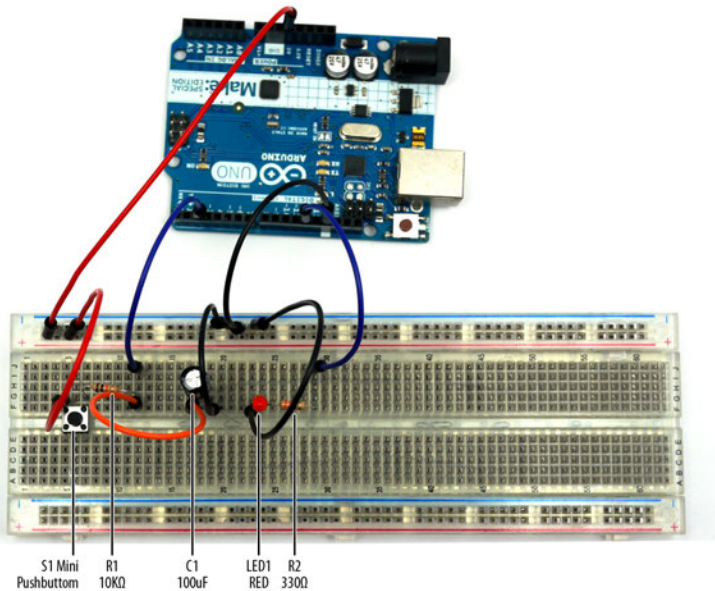
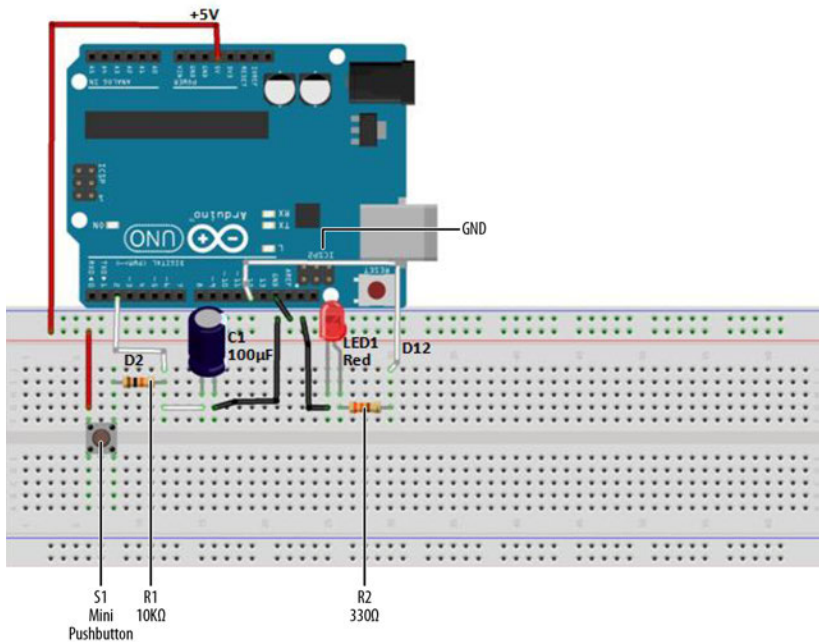

Figure 1-1. Trick Switch circuit built on a full-size clear breadboard (both the 100 μ F electrolytic capacitor and red LED negative pins are wired to ground)
Figure 1-2. Trick Switch Fritzing diagram
In electronics, sometimes we want to keep a device on for a certain amount of time even when an electrical switch is turned off. Ordinary pushbuttons used to turn electronic devices on and off can easily be operated by a timed delay switch. How awesome would it be to create such a device to delay turning off a simple LED? Such a gadget could be used to trick your friends, family, or even the local Makerspace when they see the LED staying on after the pushbutton has been released. With a few electronic components from the Ultimate Microcontroller Pack, you can make an LED (light-emitting diode) stay on for a few extra seconds when a pushbutton switch is turned off. Figure 1-1 shows an assembled Trick Switch. The electronic components required to build the Trick Switch are shown in the Parts List.
When you press the pushbutton switch on this device, the LED turns on. The capacitor will begin storing electrical energy from the +5VDC power supply circuit of the Arduino. Releasing the pushbutton switch cuts off the flow of electricity from the source, but the energy stored in the capacitor keeps the Arduino running for a few extra seconds. The Arduino keeps the LED lit until the capacitor's stored energy is empty. You can build the Trick Switch using the electronic components from the Parts List and the Fritzing wiring diagram shown in Figure 1-2. Here are the steps required to build the electronic device:
2. Wire the electronic parts using the Fritzing wiring diagram of Figure 1-2 or the actual Trick Switch device shown in Figure 1-1.